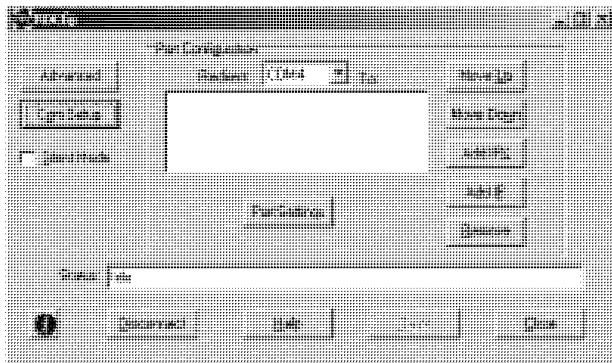

Figure 26: Com Port Redirector Configuration Window
5. Click the **Start** button in the Windows Taskbar, point to **Programs**, point to **Lantronix Redirector**, and click **Configuration**. The Com Port Redirector Configuration window appears (see Figure 26).
7. Click all the logical ports to which the PC will be redirected. A checkmark appears next to each logical port selected. Each port selected will be available from the **Redirect To** drop-down list in the Com Port Redirector Configuration window (see Figure 26).
1. Click the **Start** button in the Windows Taskbar, point to **Programs**, point to **Lantronix Redirector**, and click **Configuration**. The Com Port Redirector Configuration window appears (see Figure 26).
10. Click the **Save** button (see Figure 26).
11. Click the **Close** button (see Figure 26).